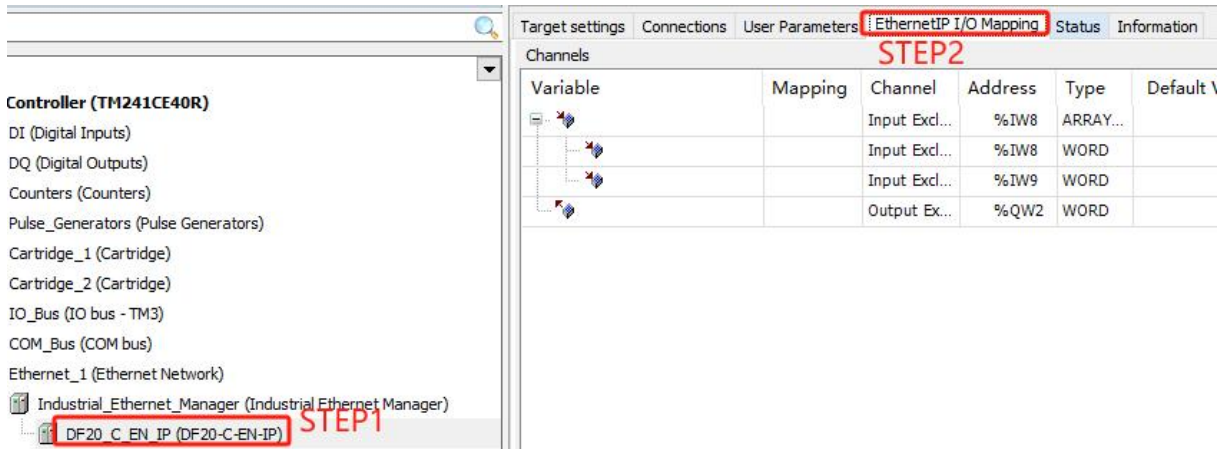

Figure 5-3-19
- Open the EthernetIP I/O mapping table, as shown in Figure 5-3-19.